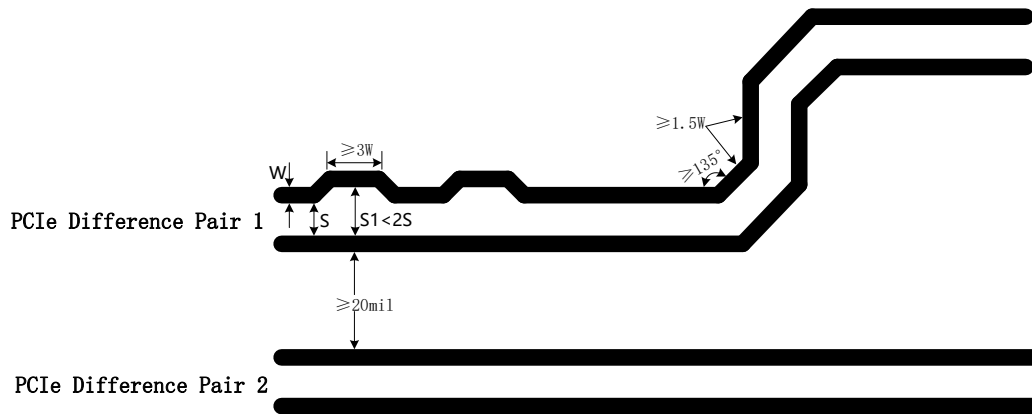

Figure 3-14 Requirement of PCIe line
- Try to avoid bended lines and avoid introducing common-mode noise in the system, which will influence the signal integrity and EMI of difference pair. As shown in Figure 3-14, the bending angle of all lines should be equal or greater than 135°, the spacing between difference pair lines should be larger than 20mil, and the line caused by bending should be greater than 1.5 times line width at least. When a serpentine line is used for length match with another line, the bended length of each segment shall be at least 3 times the line width ($\geq 3W$). The largest spacing between the bended part of the serpentine line and another one of the differential lines must be less than 2 times the spacing of normal differential lines ($S1 < 2S$);